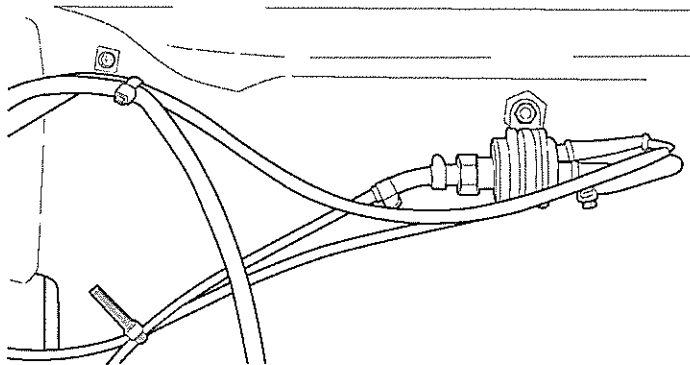

Fig 11 Electrical leads
- 19.5 Unscrew retainers and remove electrical leads (see Fig 11).